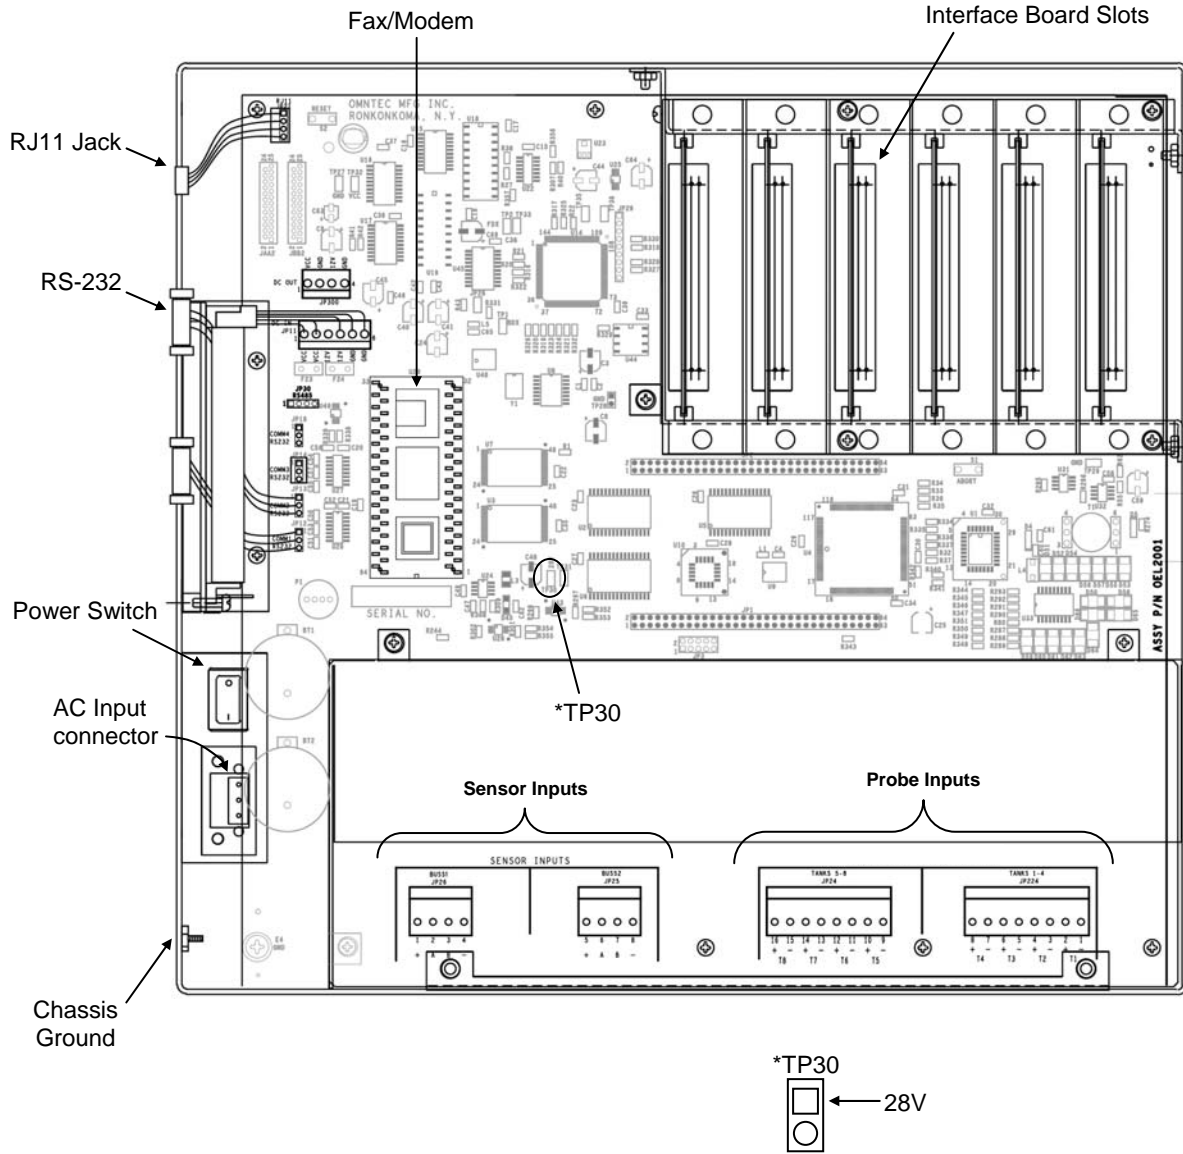

Fig. 5-1b: Controller Motherboard
This section contains probe troubleshooting procedures. Refer to Figure 5-1b and 5-1c.
1. Measure 28 Vdc at tp 30 (see Figure 5-1b).
2. Power down the controller, disconnect probe connectors at JP224 and JP24, power up the controller, and measure 28 Vdc at tp 30 (see Figure 5-1b).